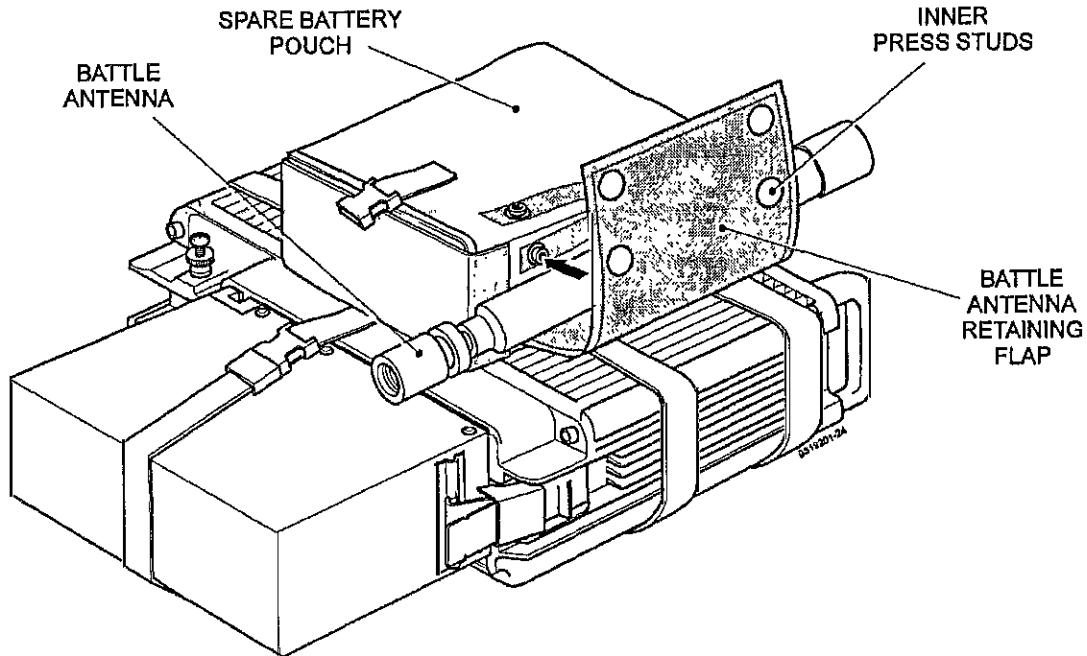

Fig 11 Manpack station - stowing a single battle antenna
19.1 Place the spare antenna alongside the spare battery pouch (Fig 11). Secure the antenna retaining flap using the inner two press studs.